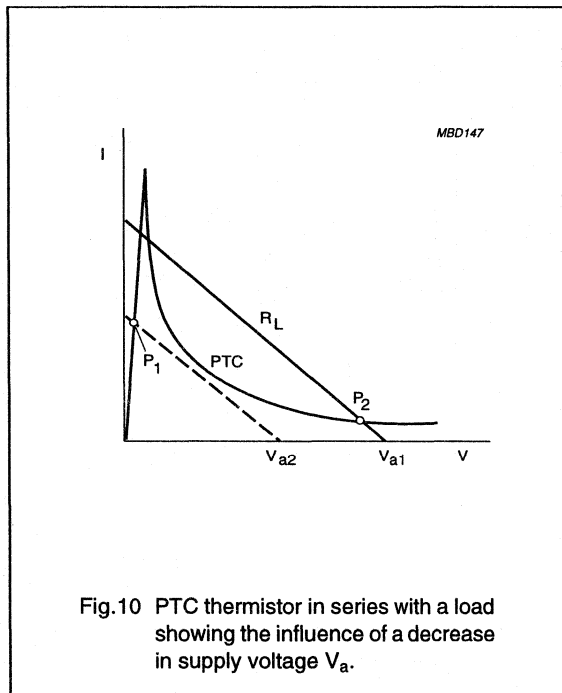

Fig.10 PTC thermistor in series with a load showing the influence of a decrease in supply voltage V_a .
1. Either the supply voltage V_a decreases (at constant load resistance); see Fig.10